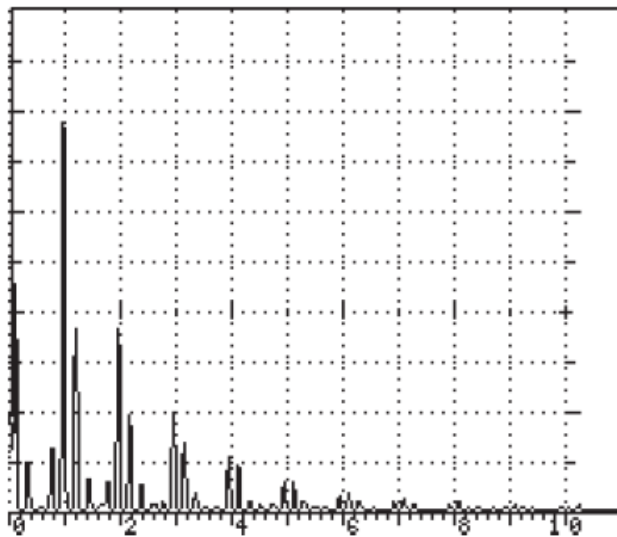

Figure 5-3: Multiple Echoes From 1.0 Block
6. Repeat steps 3 - 5 until both echoes line up. All 10 echoes should then line up with a graticule line, as shown in **Figure 5-3**. If they do, the instrument is calibrated for 1.0 to 10.0 inches. If not, repeat calibration.